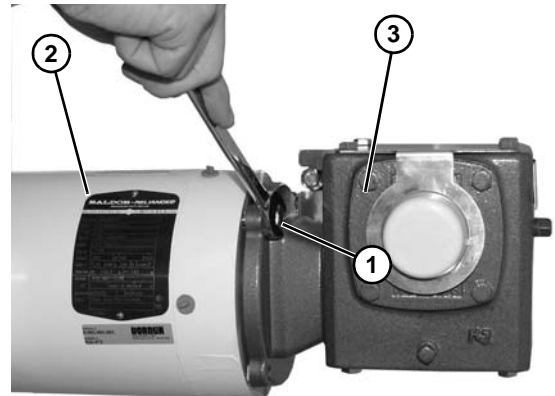

Figure 26
13. Install four bolts (Figure 26, item 1) securing motor (Figure 26, item 2) to gear reducer (Figure 26, item 3).